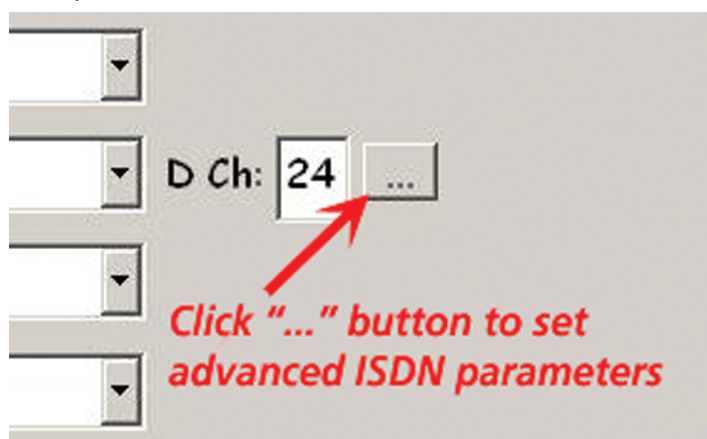

Figure 2.2.8
2. Located to the right of the channel number text box is a small button with three dots (see close-up figure 2.2.8).